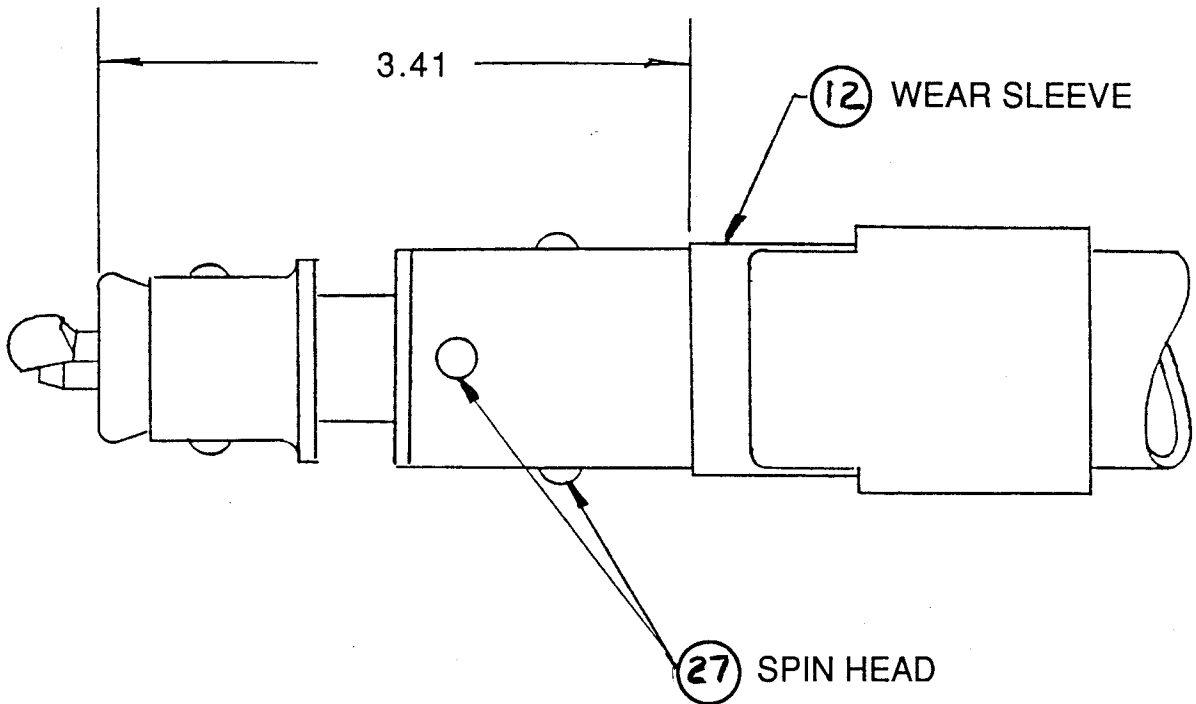

FIGURE 2 - WEAR SLEEVE LOCATION
- (3) Apply a thin layer of Masterbond Supreme 11 HT Epoxy Adhesive uniformly over area to be bonded. Slide clamp over end of tube (28) and position end of wear sleeve (12) 3.41 inches from the face of lock body (19) as shown in Figure 2. Rotate wear sleeve (12) so rivet holes are not aligned with holes in tube (28). Wipe off excess adhesive. Do not move for 12 hours. Allow 36 hours cure time at room temperature (70°F min.) before reinstalling in aircraft.
- (4) Insert end plug (26) and lock assembly (14) into end of tube (28) and align rivet holes. Insert two new rivets (27) and set heads by spinning.